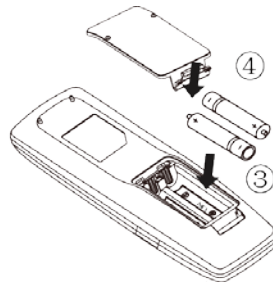

Fig.23
(3) Place two 7# (AAA 1.5V) dry batteries, and make sure the position of "+" polar and "-" polar is correct (as shown in Fig 23③).
(4) Reinstall the cover (as shown in Fig 23④).